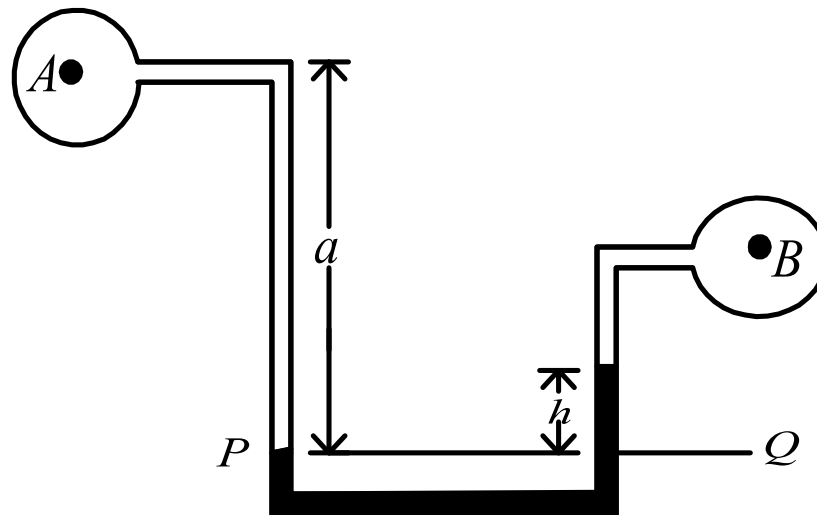

Fig. 5
- (d) A tube manometer, Figure 5, measures the pressure difference between two points A and B in a liquid of specific weight W_2 . Calculate the difference in pressure if $a = 1.5\text{m}$, $b = 0.75\text{m}$ and $L = 0.5\text{m}$. If the liquid at A and B is water [$W_1 = 9.81 \times 10^3\text{N/m}^3$] and the specific gravity of mercury is 13.6 (so that $W_2 = 13.6W_1$). **(6 marks)**